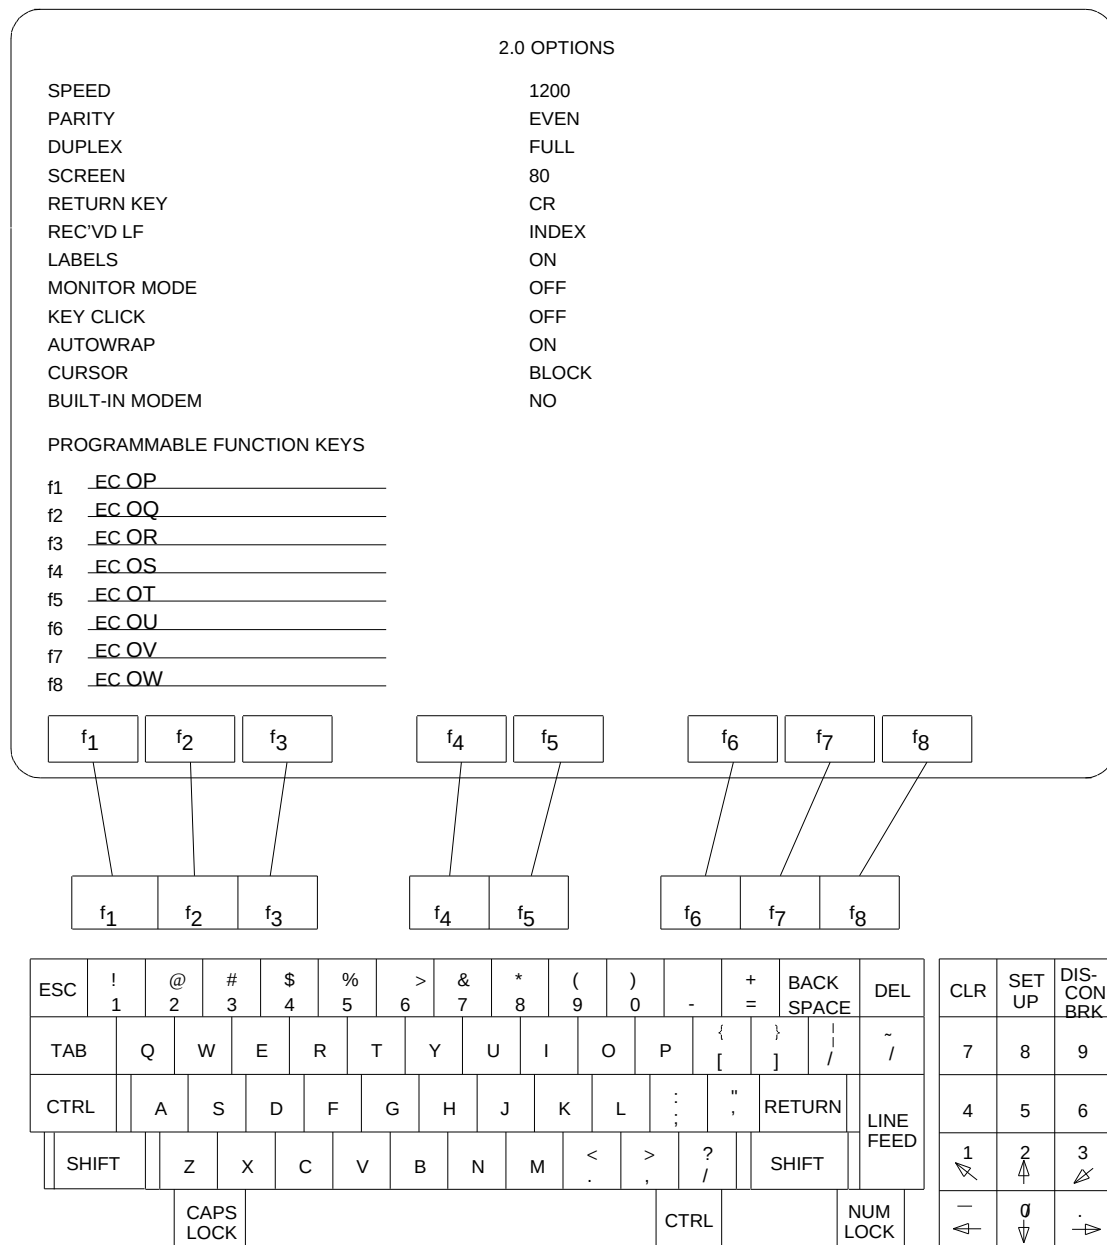

Figure 5-8. 4410 G3 Management Terminal Keyboard and Options Screen with Default Values
1. Press **SET UP** key on keypad. Verify that the terminal set up screen is shown with default values (Figure 5-8) and the cursor is positioned at the SPEED field.